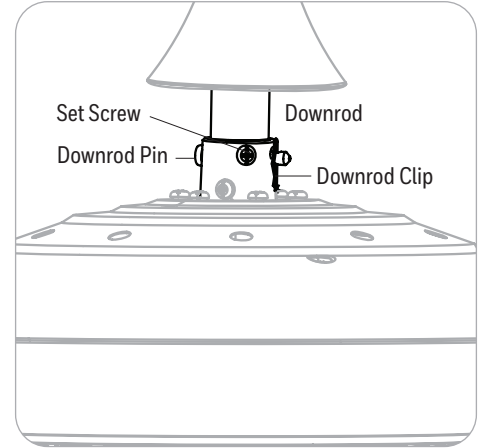

Figure 3.3
3. Partially loosen the two set screws in the yoke at the top of the motor assembly to allow for installation of the downrod. Slide the downrod into the yoke of the motor assembly. Align holes and reinstall the downrod pin and downrod clip and re-tighten the set screws (Figure 3.3).